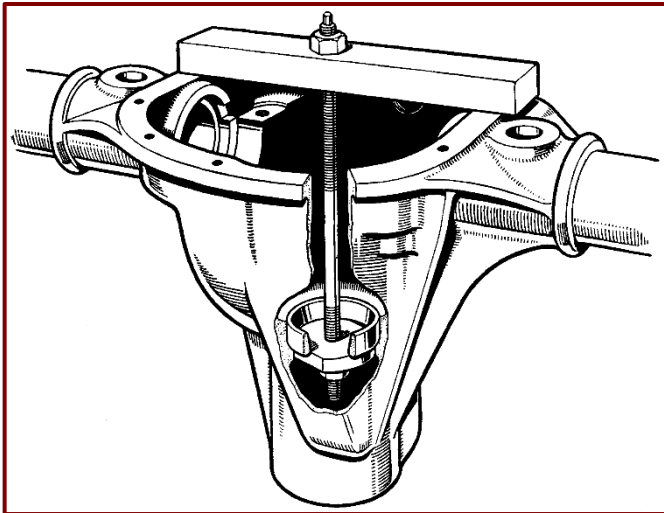

Figure 50. Extracting the Bearing Cup.
5. Examine the outer bearing for wear, and, if replacement is required, extract the bearing cup, using Tool No. SE.105 shown in *Figure 50*. The extractor plate should be installed behind the cup and then the drawback may be fitted together with the extractor bar which seats on the nose of the gear carrier. The bearing cup may then be withdrawn by tightening the nut on the drawbar.
6. Remove the pinion inner bearing cup (*Figure 50*) using Tool No. SE.105 if the bearing requires replacement or adjustment of the pinion setting is to be undertaken. Take care of the shims fitted between the bearing cup and the housing abutment face. If the inner bearing is to be replaced it may be driven out, but the correct Service Tool should be used when the bearing is removed in order to carry out the pinion setting adjustment.